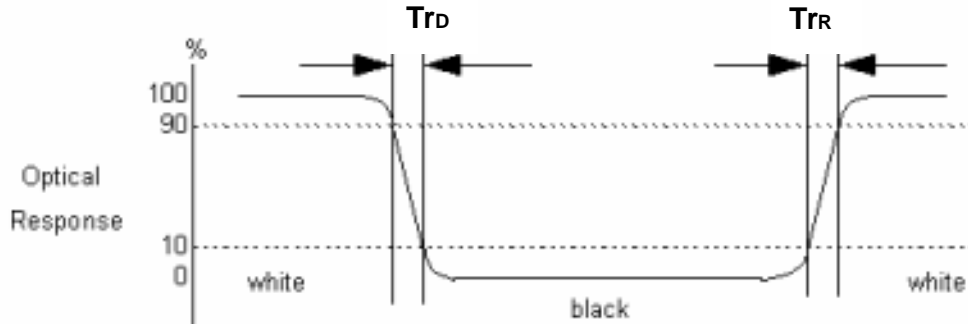

Fig.4-3 Response time
4. Response time is the time required for the display to transition from white(L255) to black(L0) (Decay Time, $Tr_D = Tf$) and from black(L0) to white(L255) (Rise Time, $Tr_R = Tr$). For additional information see Fig. 4-3.